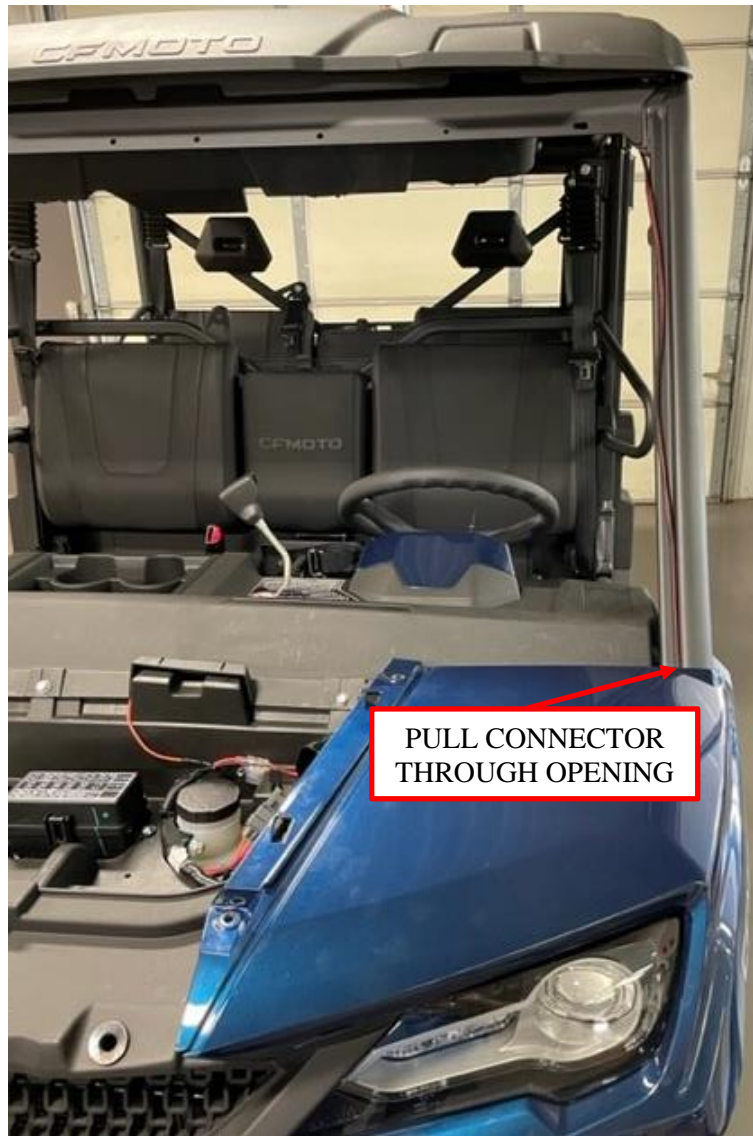

Figure 13: Chassis harness routing up the front down tube.
12. Gently pull the chassis harness connector through the opening, and connect it to the mating connector on the *Audio Mini*. The harness will be secured to the cage tube at the end of the installation. See Figure 13.